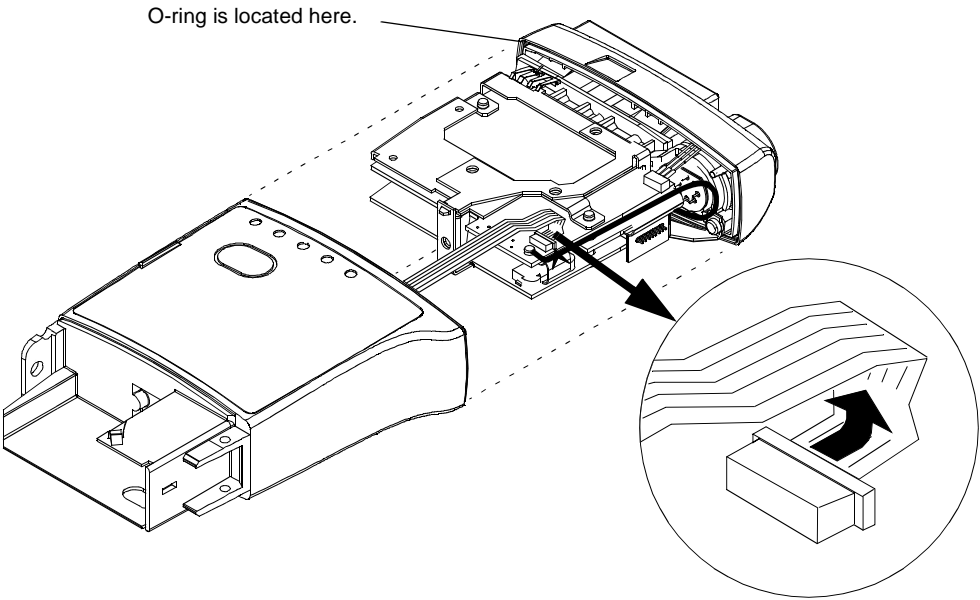

Figure 5-6 Removing the Case Assembly from the Transmitter
Step 2. Pull the transmitter's Front End Assembly from the top of the transmitter until the ribbon cable from the Main PCB to the Case Assembly is accessible. The ribbon cable from the Case Assembly to the Main PCB connects via a collared connector. See Figure 5-6.